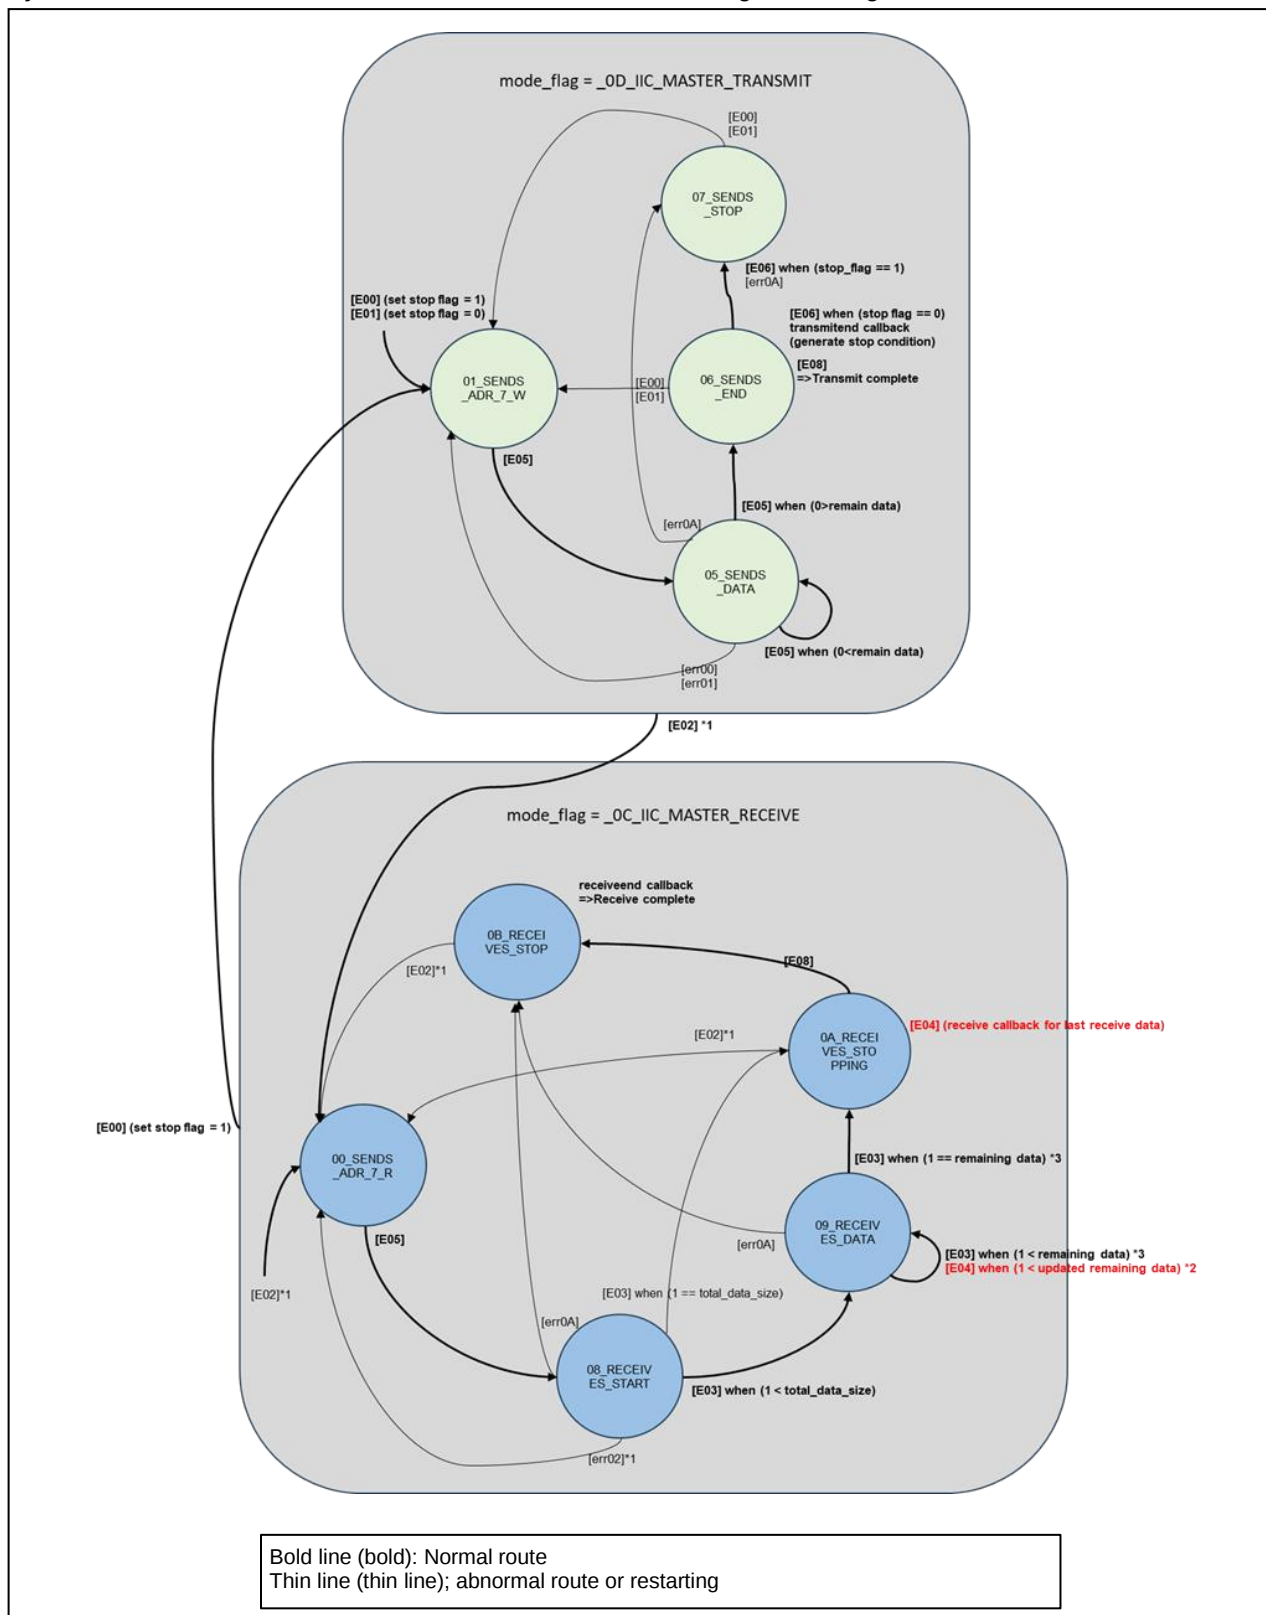

Figure 30 PMBus Master Driver Layer status transitions
The state transition of the PMBus Master Driver Layer is divided into the transmit operation part and the receive operation part to PMBus Slave, and the specified data is sent/received by the specified number of bytes. PMBus Master Driver status transitions are shown in Figure 30, Figure 31, and Table 13, Table 14.
- Light green indicates state transitions when mode_flag=0D in Figure 30.
- Light blue indicates state transitions when mode_flag=0C in Figure 30.